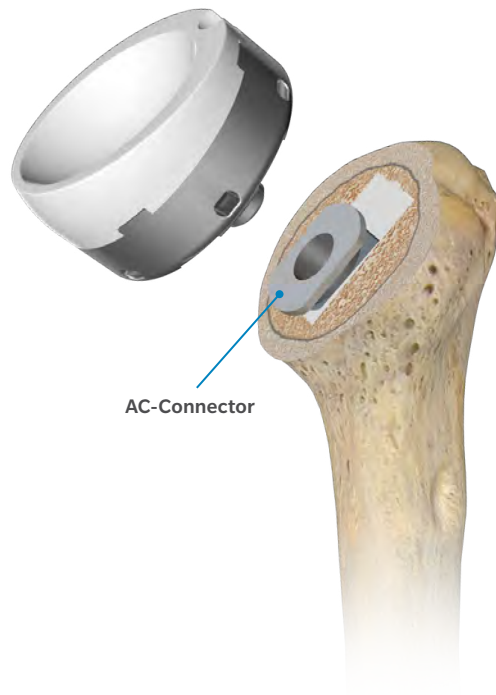

Figure 38
- Clean and dry the inner Morse Taper of the AC-Connector (Figure 38).